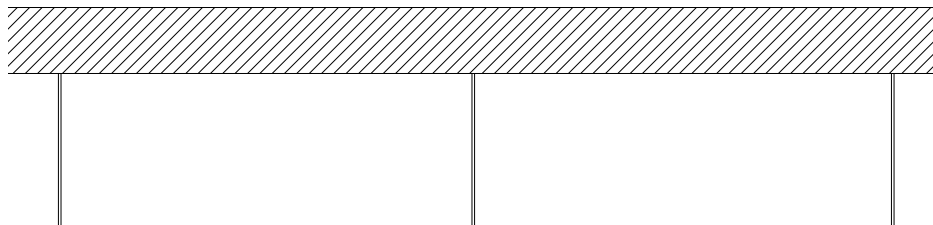

Figure 7. Suspension wires attached to ceiling
Step 3: Attach lengths of pre-stressed 12 gauge suspension wire to the slab or structural steel (**Figure 7**) above the ceiling according to ASTM C636. For ceiling modules between two Unistrut channels, hanger wire needs to be attached to cross tees.